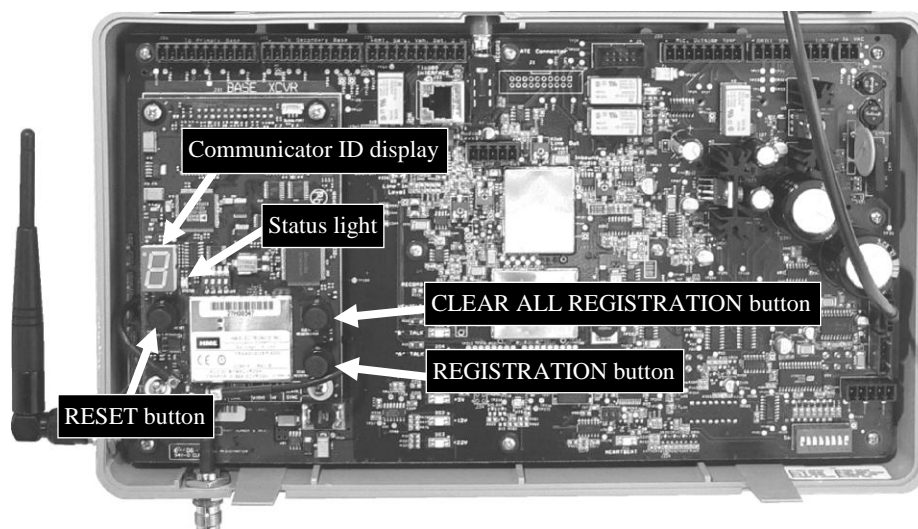

Figure 5. Registration buttons and indicators
A maximum of 15 Communicators can be registered. If a Communicator is replaced, you must register the new one before you use it. When a Communicator is replaced, the old one remains in memory. If the maximum number of 15 (in memory) is exceeded, the Communicator ID display in the base station will show “F” for full. See Figure 5. If this happens, you must clear all current registrations and re-register all active Communicators. To clear all current registrations, press the “CLEAR ALL REGISTRATION” button and the “RESET” button at the same time. Refer to Figure 5 on page 6. Continue holding the “CLEAR ALL REGISTRATION” button after releasing the “RESET” button, until the clear code “c” (lower case) appears on the Communicator ID display. Register all active Communicators the same way, one at a time.
- Open the base station and locate the items shown in Figure 5.